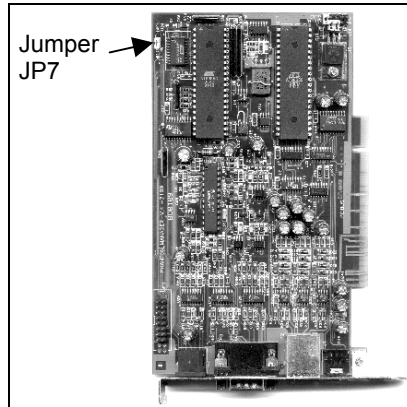

Figure 8-7 Jumper JP7
2. Open the cover, extract the **Phantom Manager** card and Close Jumper **JP7**. See Figure 8-7.